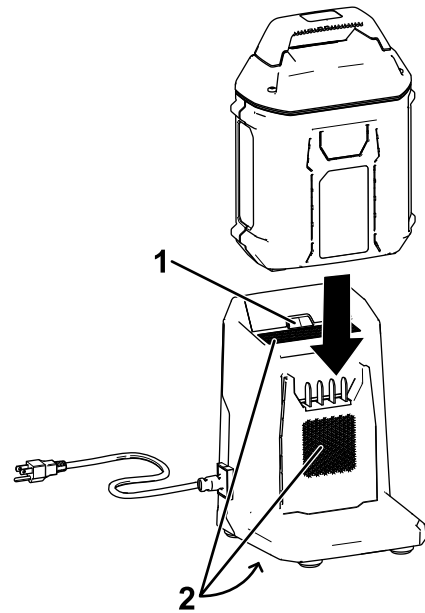

**Figure 17**
2. Line up the cavity in the battery pack (Figure 17) with the tongue on the charger.